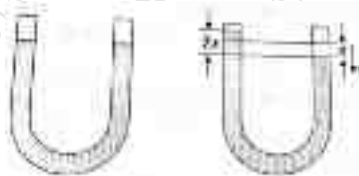

Fig. 1
- (d) A spring-mass system has a natural period of 0.28 second .What will be the new period of the Spring constant is: (1) increased by 55% (2) decreased by 35%?
**Q.2 (a) Determine the equation of motion for the following system as shown in the Fig 1 and find the natural frequency of the system. 10**